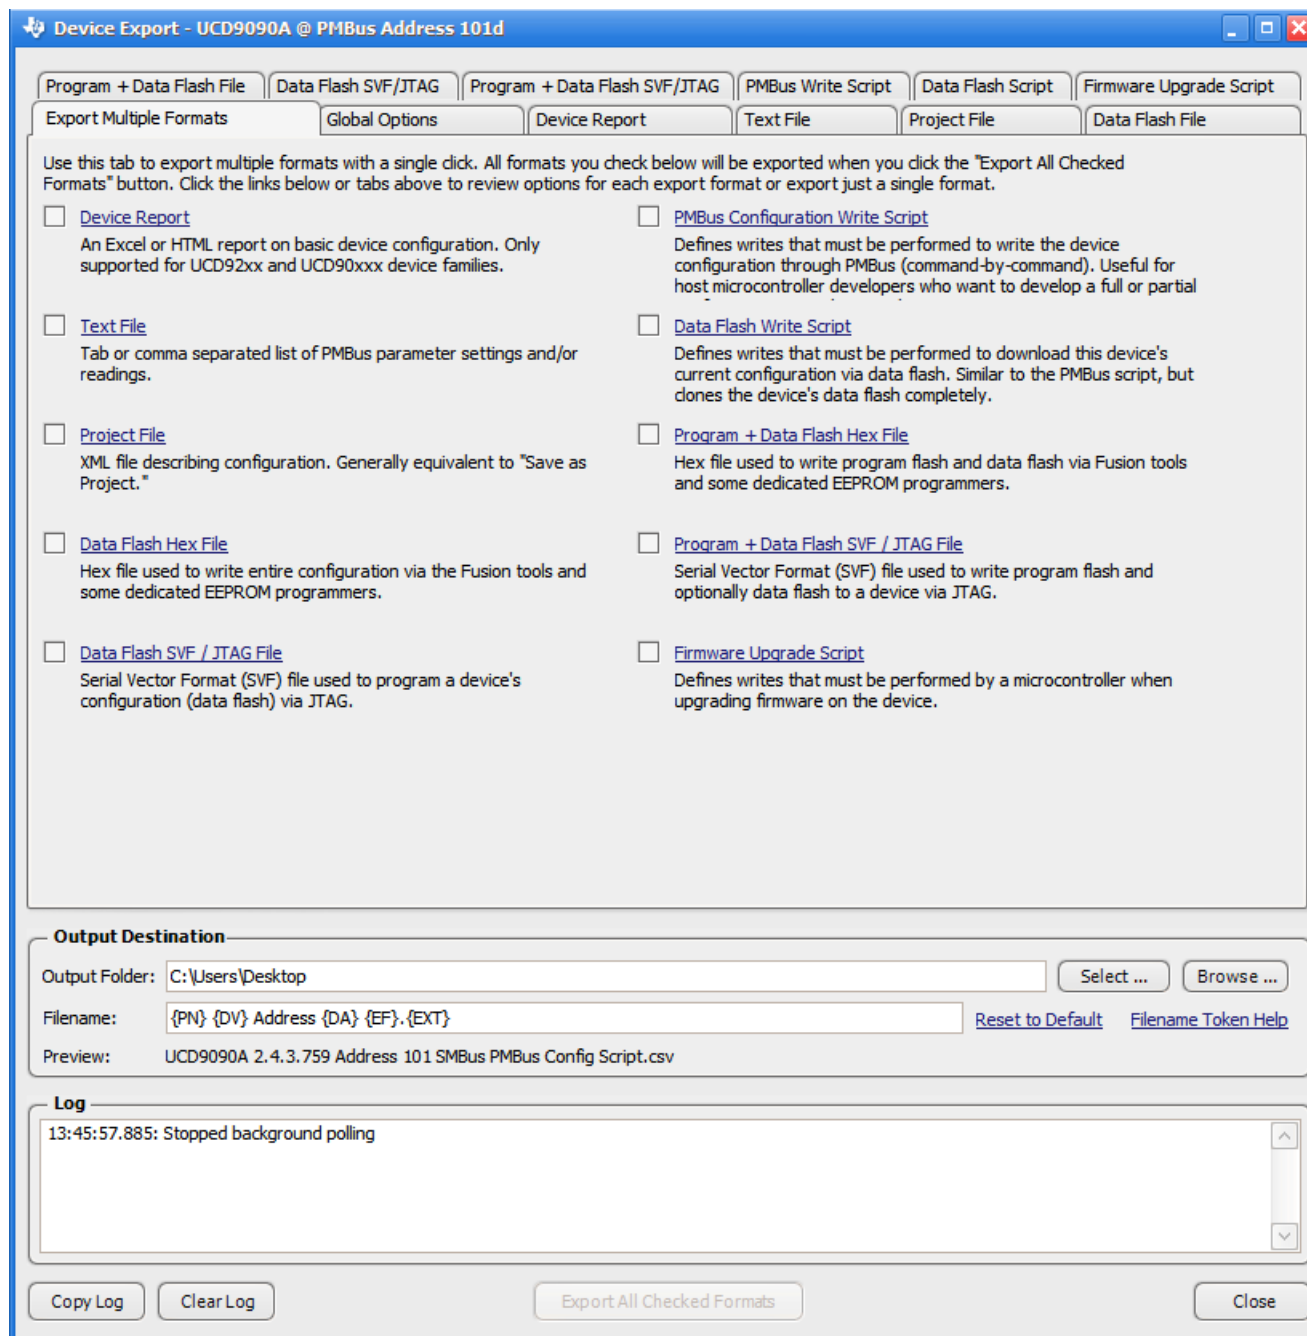

Figure 7-29. Fusion GUI Device Configuration Export Tool
- Another in-circuit programming option is for the *Fusion GUI* to create a data flash image from the configuration file (Figure 7-29). The configuration files can be exported in Intel Hex, data flash script, Serial Vector Format (SVF) and S-record. The image file can be downloaded into the device using I²C or JTAG. The *Fusion GUI* tools can be used on-board if the *Fusion GUI* can gain ownership of the target board I²C bus. It is recommended to use Intel Hex file or data flash script file for production programming because the GPIOs are under controlled states.